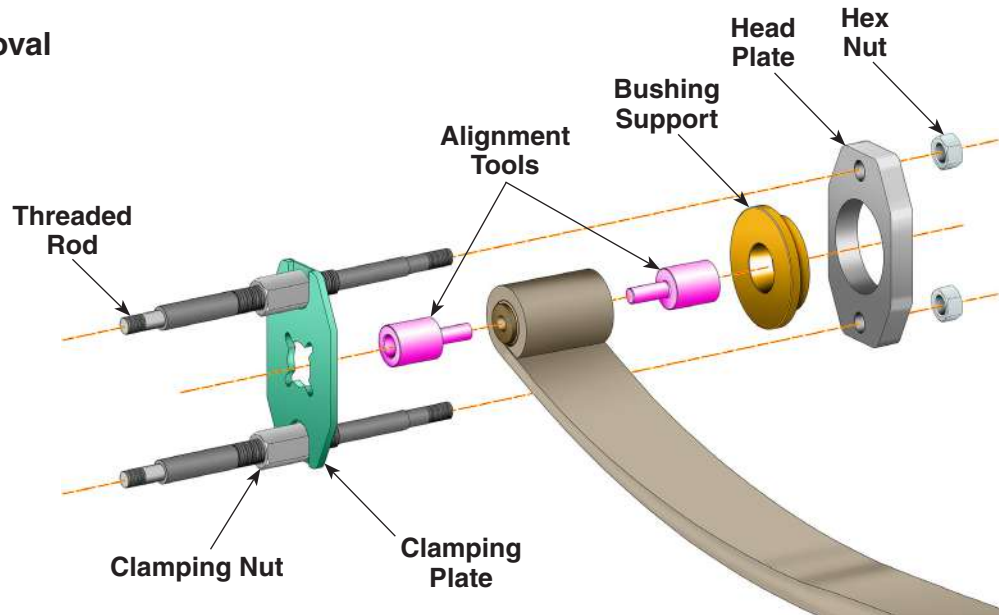

Figure 1
1. Insert the two *alignment tools* into the bushing as shown in Figure 1.